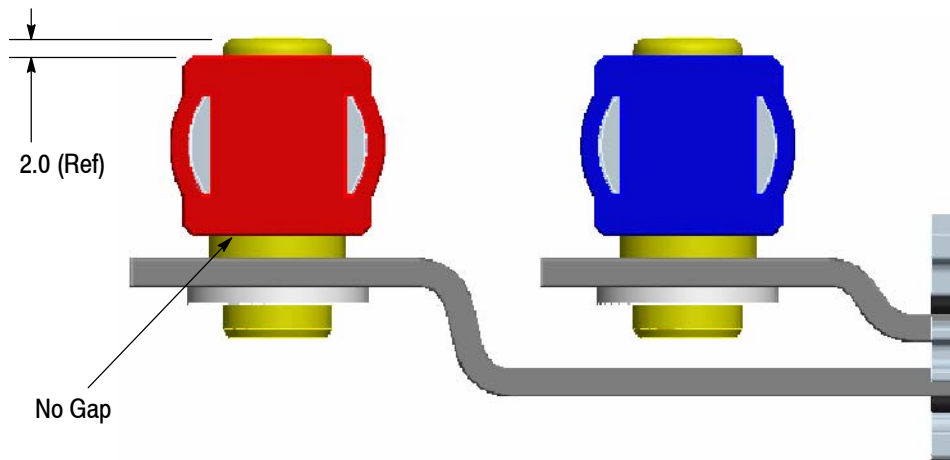

Figure 3
**A. RAPID LOCK Connectors** (Figure 3)
Mating of the RAPID LOCK connector shall be in -Y direction as shown in Figure 2A. The RAPID LOCK connector is to be pushed fully down on the 12 mm pin. The pin should extend approximately 2.0 mm above the surface as shown in Figure 3.